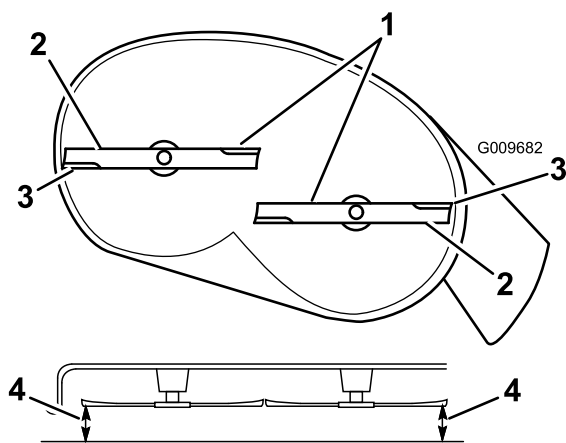

Figure 48
4. Carefully rotate the blades so that they are all side to side (Figure 48).
5. Measure between the outside cutting edges and the flat surface (Figure 48).